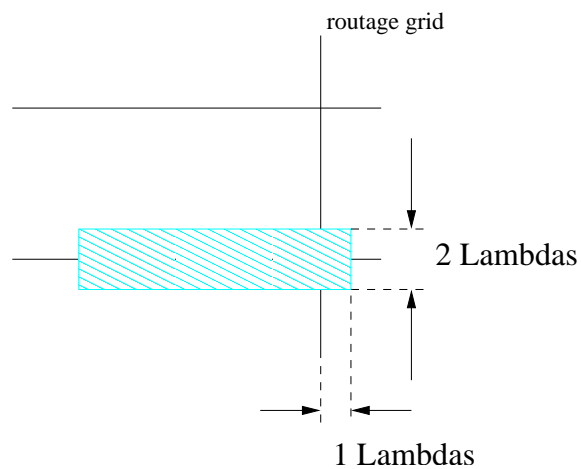

Figure 6: Low size of CAlu1
- The minimal width of CAlu1 is 2 lambda, plus 1 lambda for the extension (figure 6).